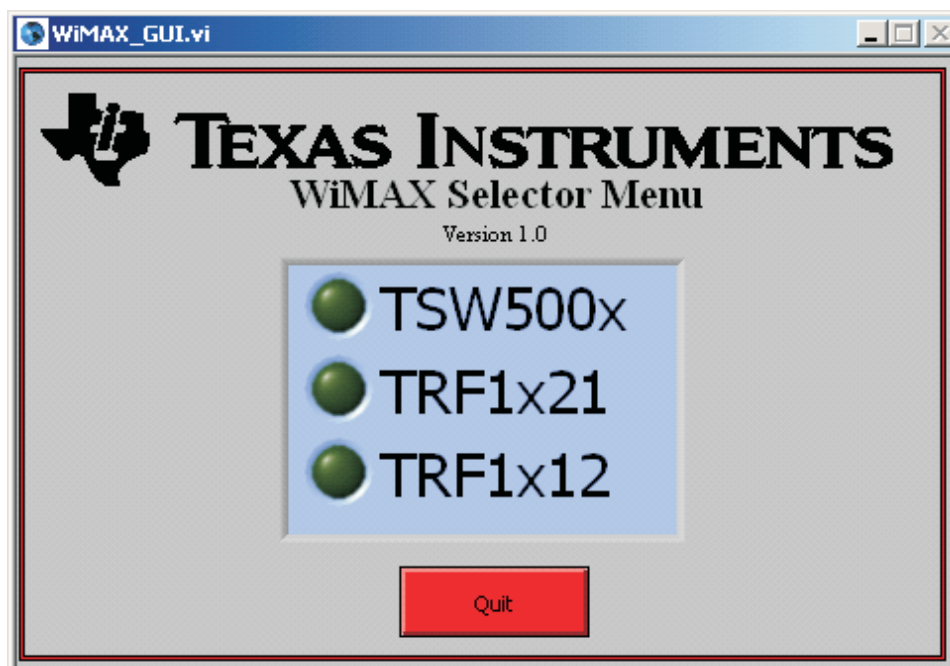

Figure 3. WiMAX GUI Front Panel
- The main screen appears as in Figure 3.